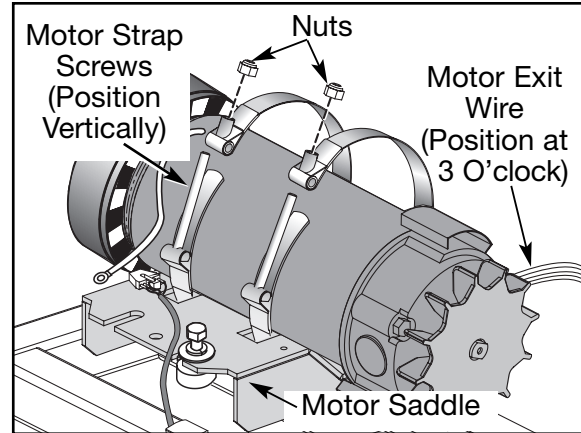

Figure 16
- B.** Turn the motor so the exit cable is positioned at a 3 o'clock angle toward the front roller. See Figure 16.
- A. Loop each strap through the motor saddle and position each screw vertically as shown in Figure 16. **NOTE:** The motor strap will be creased slightly where it pressed against the motor saddle, be sure the strap is in its original position.
- B. Close each motor strap and use a 7/16" wrench with a deep socket to tighten each nut securely (80 in-lbs). See Figure 16.